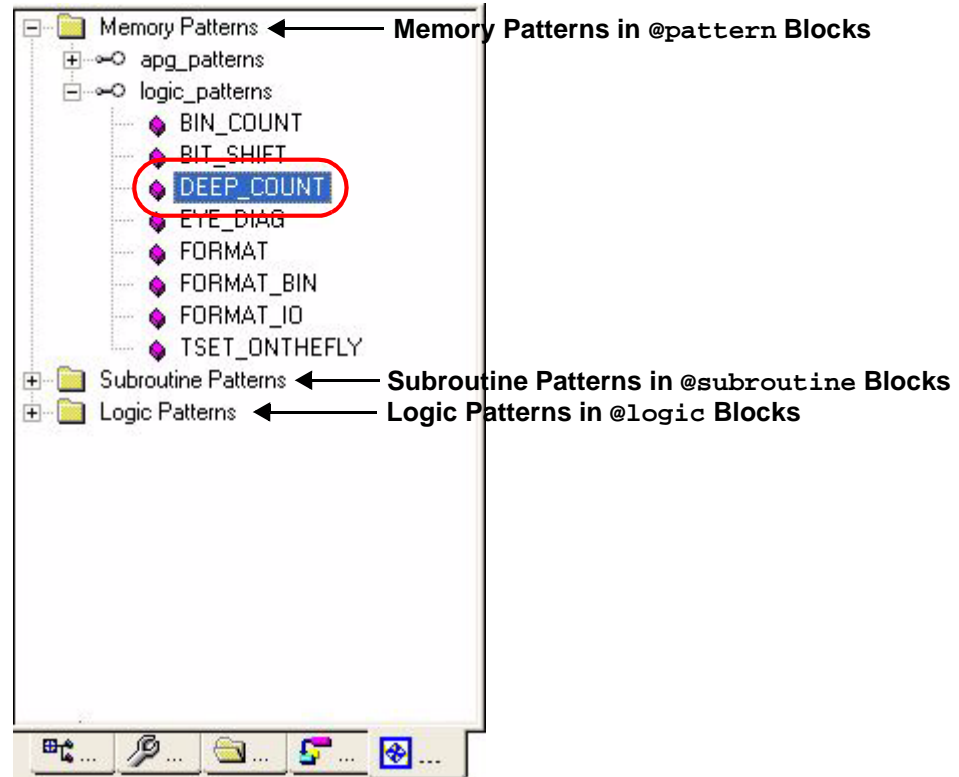

Figure 5-53. Patterns Tab Displaying Memory Contents
- 3 Selecting the Patterns tab  in the Navigator Pane displays the list of patterns currently in memory (similar to Figure 5-53). Under each pattern is a list of entry points.